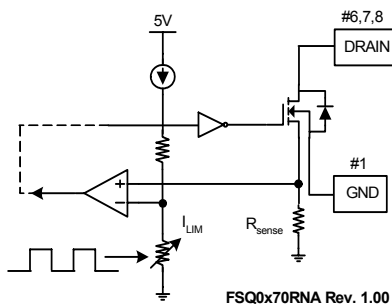

**Figure 15. Overload Protection (OLP)**
**4.1 Overload Protection (OLP):** Overload is defined as the load current exceeding a pre-set level due to an unexpected event. In this situation, the protection circuit should be activated to protect the SMPS. However, even when the SMPS is operating normally, the OLP circuit can be activated during the load transition. To avoid this undesired operation, the OLP circuit is designed to be activated after a specified time to determine whether it is a transient situation or a true overload situation. In conjunction with the  $I_{PK}$  current limit pin (if used), the current mode feedback path limits the current in the SenseFET when the maximum PWM duty cycle is attained. If the output consumes more than this maximum power, the output voltage ( $V_O$ ) decreases below nominal voltage. This reduces the current through the opto-coupler LED, which also reduces the opto-coupler transistor current, thus increasing the feedback voltage ( $V_{FB}$ ). If  $V_{FB}$  exceeds 3V, the feedback input diode is blocked and the  $5\mu A$  current source ( $I_{DELAY}$ ) starts to slowly charge  $C_{FB}$  up to  $V_{CC}$ . In this condition,  $V_{FB}$  increases until it reaches 6V, when the switching operation is terminated, as shown in Figure 15. The shutdown delay time is the time required to charge  $C_{FB}$  from 3V to 6V with  $5\mu A$  current source.